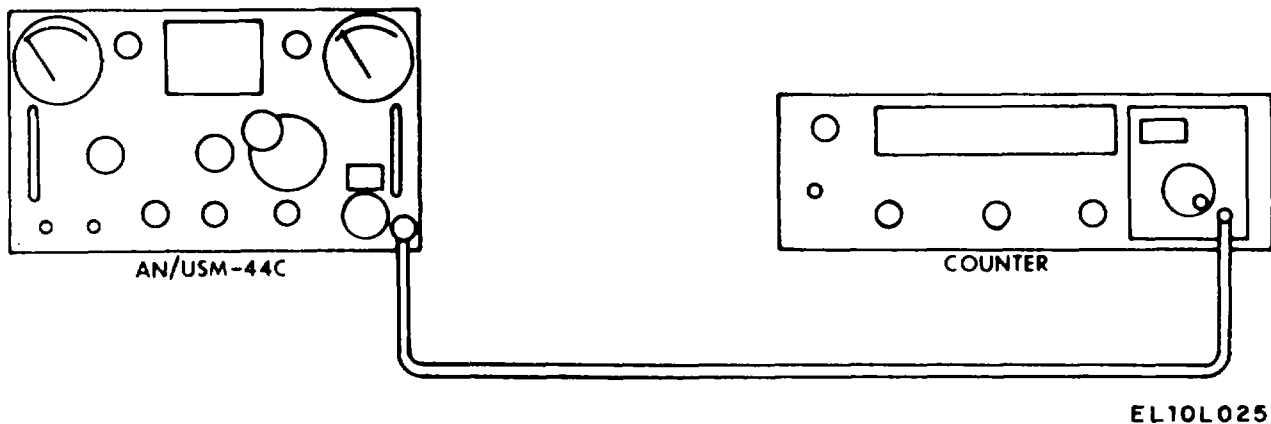

Figure 7-17. Frequency accuracy test setup.
- c. Connect test equipment as shown in figure 7-17.